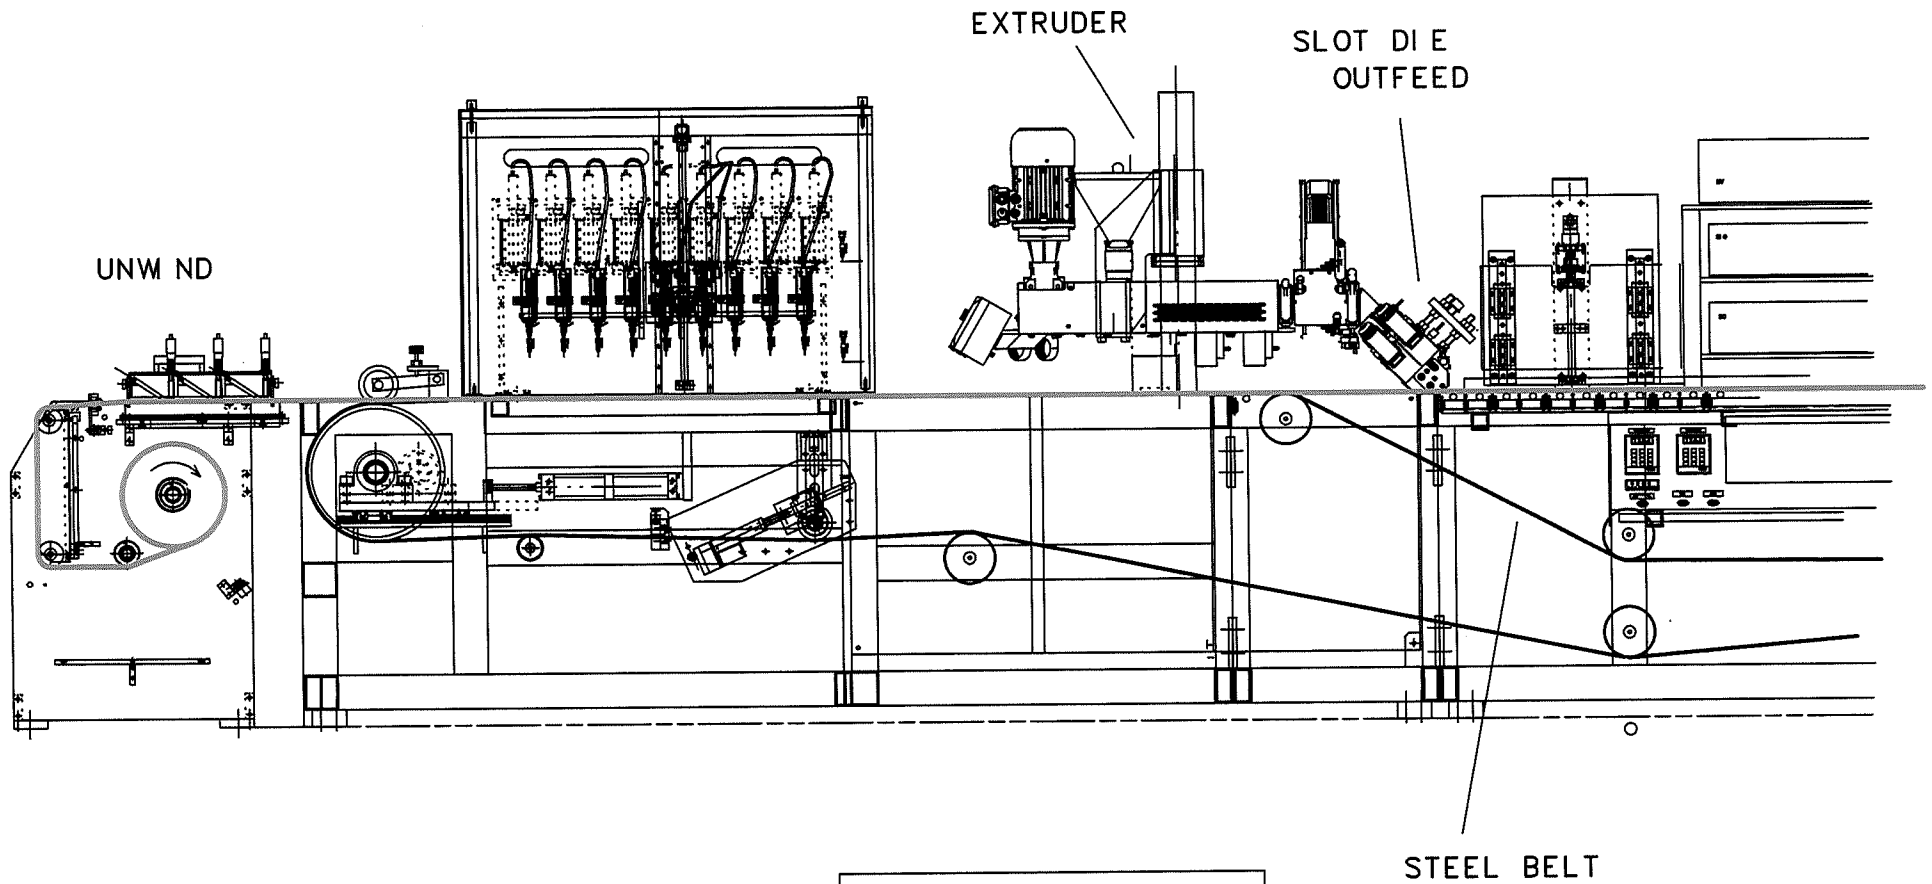

FIG 3
14. THE KAPTON FILM WILL BE THREADED UNDER THE EXTRUDER AND ON TOP OF THE FIRST HEATER PLATE (#1). SEE FIGURE 3 FOR THE THREADUP OF THIS SECTION AND THE REMAINING HEATED SECTIONS. THE E-FIELD HEAD SHOULD BE RAISED TO AT LEAST .040" (1MM) TO ALLOW UNOBSTRUCTED THREADUP OF THE KAPTON IN THIS SECTION.